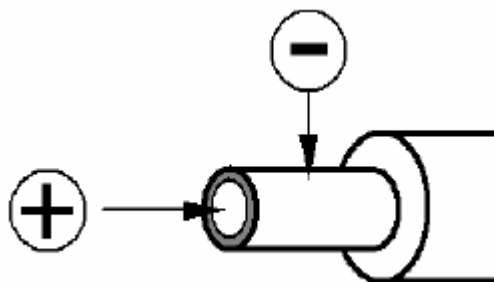

Figure 2 DC Power Supply
3. An external regulated 9 to 12V, 500mA DC power supply for the starterkit (Figure 2),